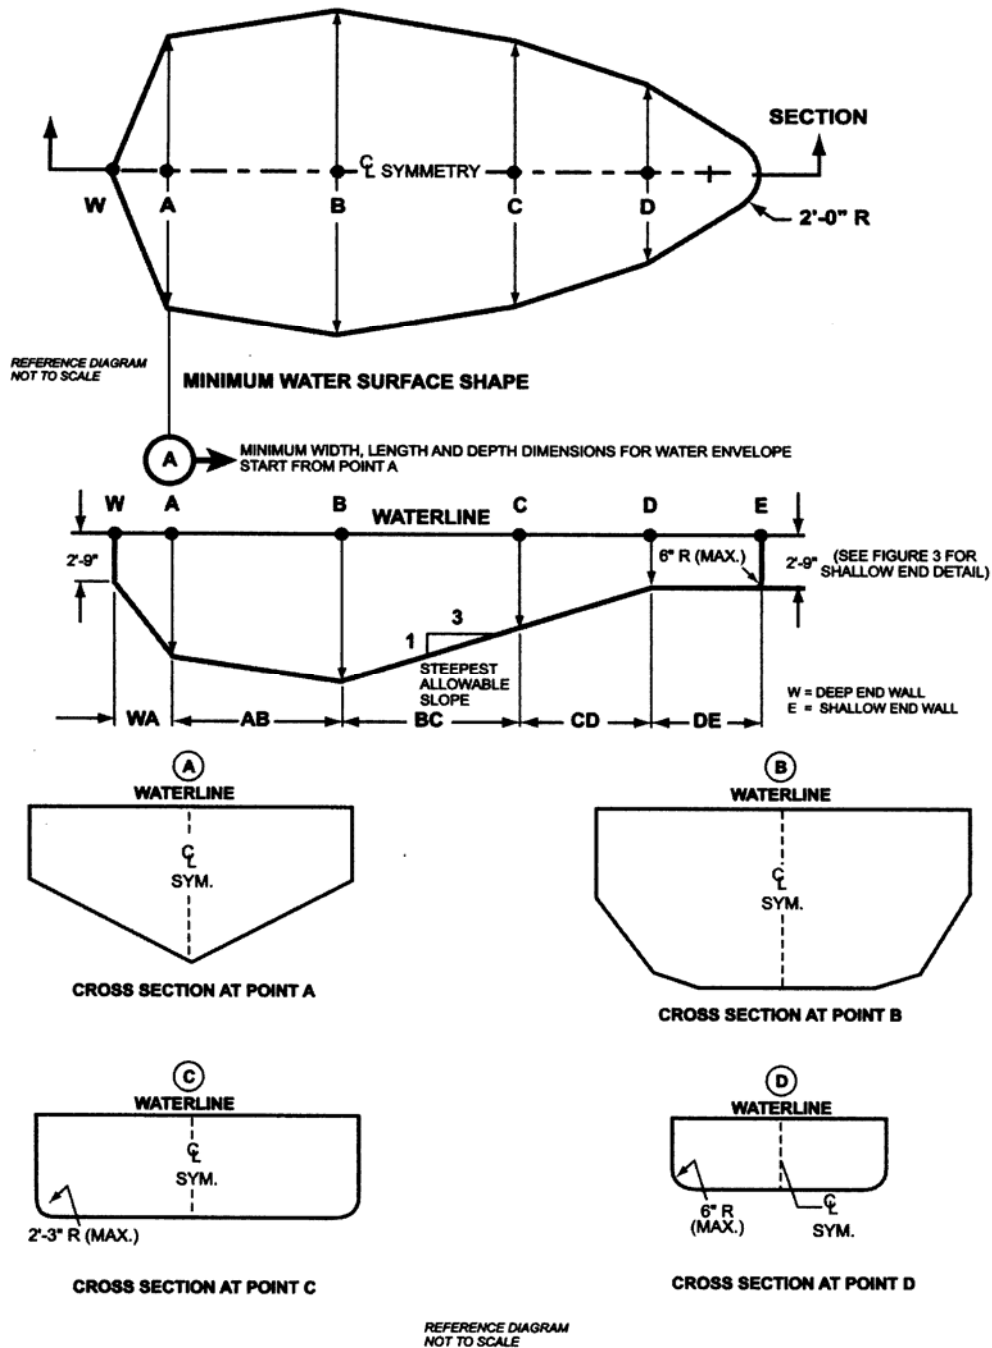

Figure 3- Minimum water envelope
5.3.3 The walls of Type I pool, when defining the minimum diving water envelope, shall be plumb or outside of Type 1 water geometry. (See figure 3, table 1.)
- Figure 3 drawings are not to scale. (For pool types, see Glossary.)
5.8.2.1 Diving equipment installation and use instructions shall be provided by the diving equipment manufacturer and shall specify the minimum water dimensions required for each diving board and diving stand combination. They may refer to the water envelopes type of their choice by dimensionally relating their products to Point A on the water envelopes as shown in figure 3 and table 1, 5.9.1 through 5.9.3.
5.9 Figure 3 contains suggested drawings and diagrams for minimum water envelope for swimming
pools designated type I - V. Individual pool types are shown in figure 3 and table 1.
5.9.1.2 Point A as shown in figure 3 and table 1 shall be the reference point of origin for all dimensions defining the minimum water envelope.